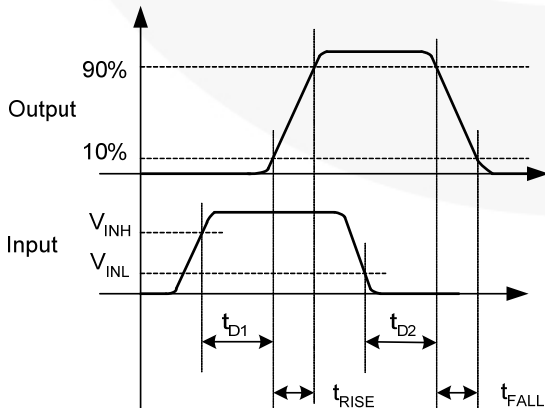
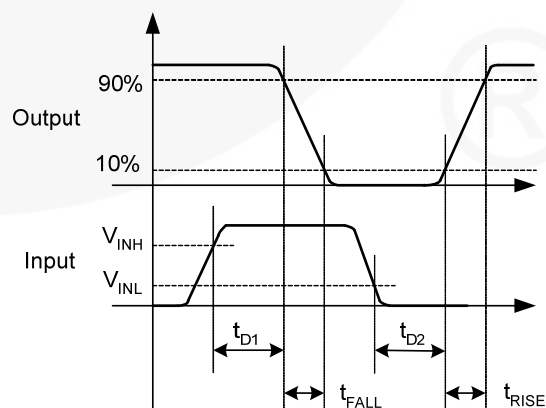

Figure 6. Non-Inverting Timing Diagram
Figure 7. Inverting Timing Diagram
- 9. See Timing Diagrams of Figure 6 and Figure 7.